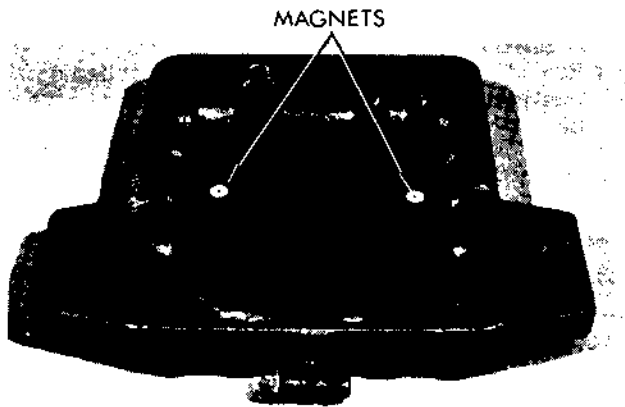

Figure 57
2. Lift the cover and gasket off the housing and set aside (Figure 57). If the cover sticks to the housing, jar the cover with a plastic mallet.
3. Remove and clean the two magnets laying in the bottom of the handhole cover. Note their location in Figure 57.